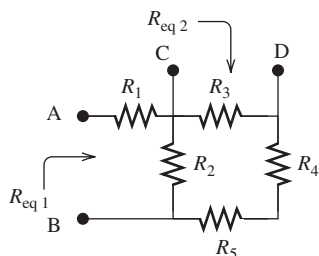

FIGURE P3.10 Circuit for Problem 3.10.
- 3.10 (H) Find R_{AB} and R_{CD} in Figure P3.10. Let node C and D open when calculating R_{AB} and let node A and B open when calculating R_{CD} .